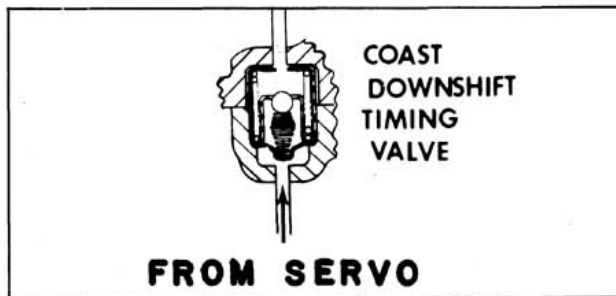

Fig. 6-329 Coast Downshift Timing Valve
**COAST DOWNSHIFT TIMING VALVE (Fig. 6-329)**